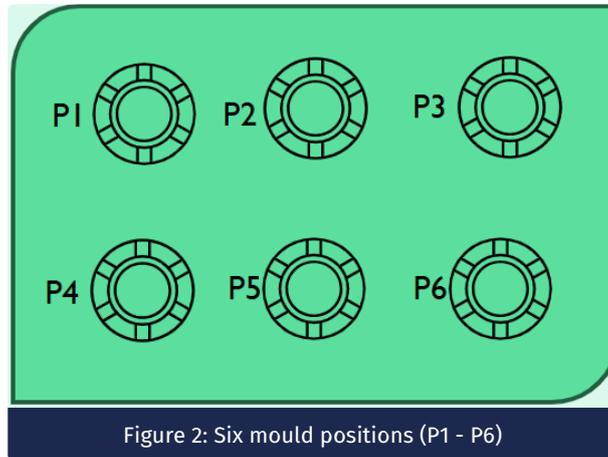

Figure 2: Six mould positions (P1 - P6)
- Check outer diameter using vernier calliper (See Figure 2): Step name: **OD**.